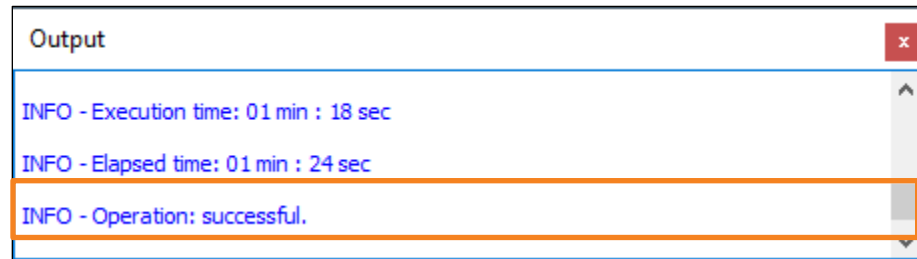

Figure 3.9. Lattice Radiant Programmer Output Window
7. Check the **Output** Console at the bottom of Lattice Radiant Programmer for the programming results. You should see **Operation: Successful** as shown in Figure 3.9.